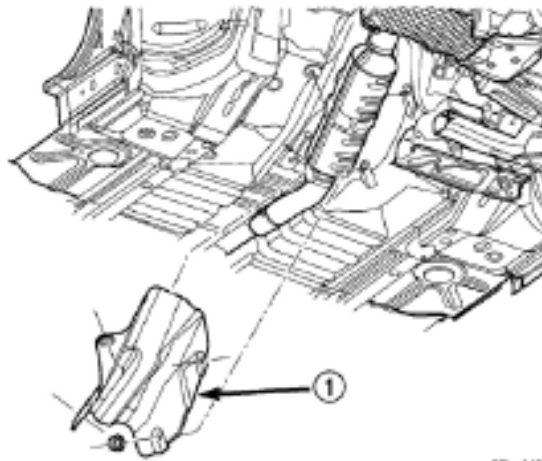
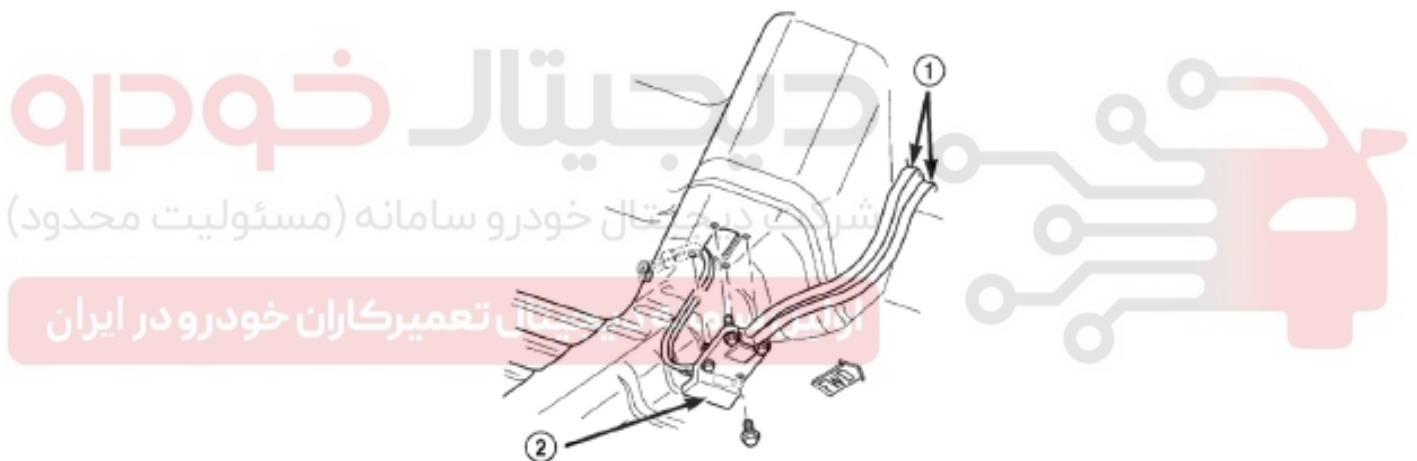

Figure 3-113 Disassembly/assembly of converter heat shield
Figure 3-114 Gear shift cable assembly on the floor
(10) Lift up the vehicle.
(11) Remove converter heat shield (Figure 3-113).
(12) Screw off fixing plain bolt for orifice plate and floor (Figure 3-114).
(1) Lift up the vehicle.
(2) Install the cable assembly through the floor opening and fix it on the floor with orifice plate and a bolt (Figure 3-114). Make sure the 3 bolts for orifice plate cable stretches out through the assembly and floor and the bolt tightening torque is 7Nm (60 in. lbs.).
(3) Enable the cable assembly to bypass transaxle assembly on the transaxle end and be introduced into the engine cabin.
(4) Assemble the converter heat shield (Figure 3-113).
(5) Set down the vehicle.
(6) Mount the gear shift cable assembly on the support and fasten it with new clamp (Figure 3-114), make sure the new clamp is parallel and level with support assembly.